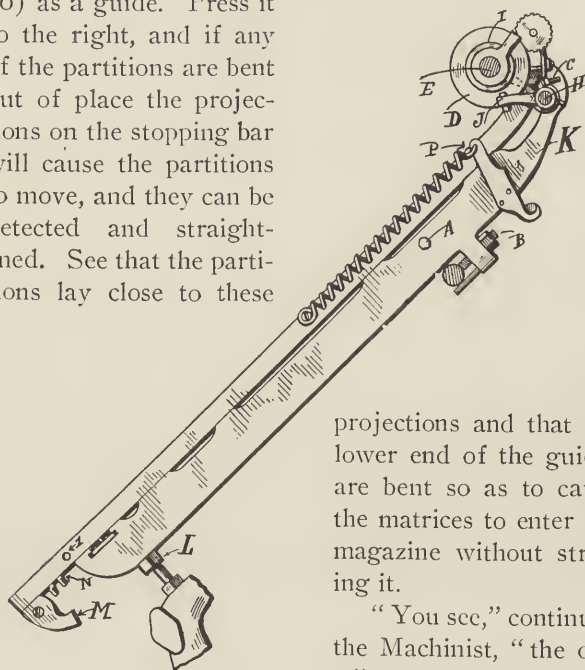

FIG. 29.
“In the first place, don't get the idea that the distributor bar is at fault whenever the distributor gives trouble. The bar is made right and set right, so don't 'monkey' with it. If the matrices fall into the wrong channel or clog in the distributor entrance, it is usually because the magazine is not set right. The two adjusting screws (*A*, Fig. 29) on either side of the magazine are for the purpose of setting the magazine in proper relation to the distributor bar. Throw the distributor belt off and turn the distributor by hand and set the magazine so that when the matrices fall from the bar they will just clear the partitions or guides. When the distributor is running normally the momentum given the matrices will carry them to the center of the channels. The other adjusting screws (*B*) on the magazine must be set so as to leave a space of 1-16 of an inch between the bottom of matrices suspended from the bar
“You see,” continued the Machinist, “the distributor is controlled by a friction clutch which slips if anything binds the distributor screws or matrix lift, thus preventing breaking or bending of the parts. The clutch is formed by a spring pressing a disk against the side face of the pulley (D, Fig. 29). The friction shaft (E) is geared to the distributor screws
"No," replied the Machinist; "the front end of the magazine must be adjusted to the proper height to permit the full stroke of the matrix escapements. Throw off the keyboard belts and touch the lower-case *c* and em-dash keys. Then turn the rollers by hand until the keyrods rise to their highest stroke. At this point there should be a clearance of 1-32 of an inch between the verge and the hook on the keyrod. Adjust by means of the screws (*L*, Fig. 29) under the magazine until this clearance is obtained."
The back entrance was then fastened to the magazine and the spring (*P*, Fig. 29) attached to it to hold it closed, after which the magazine was placed in position in the machine and the flexible front depressed beneath the mouth of the channel.